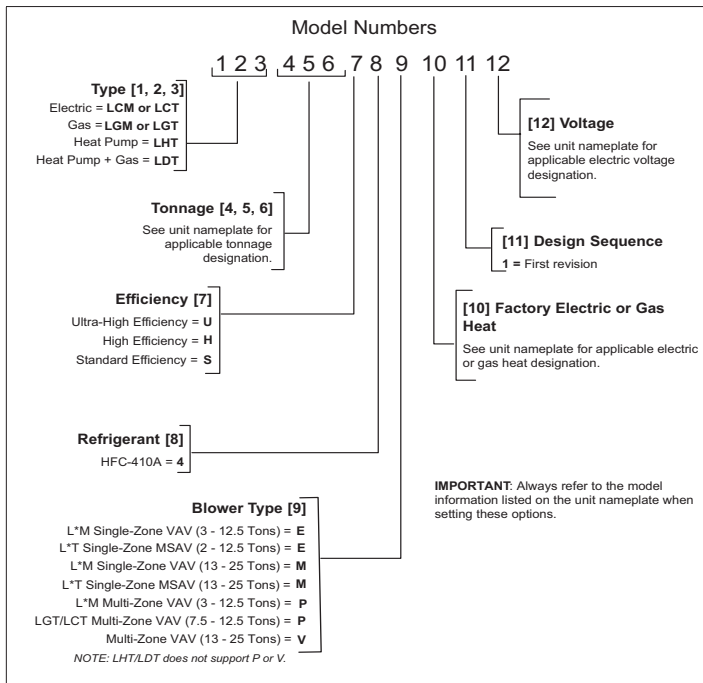

Figure 5. Model Number
- Model Number (see “Figure 5. Model Number”) and serial number. Model, serial and catalog numbers are located on the RTU nameplate.